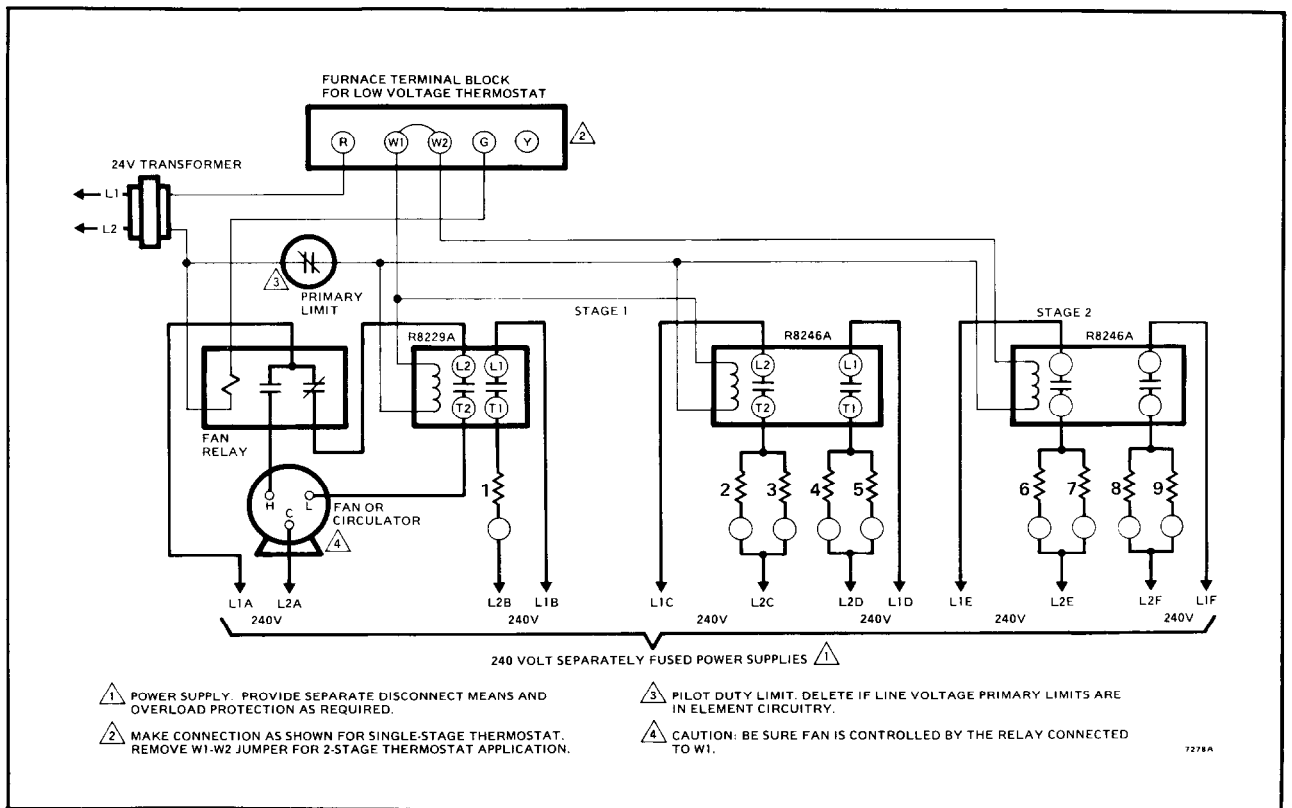

FIG. 8—240 VOLT, TWO-SPEED ISOLATED FAN WITH PILOT DUTY LIMIT.
4. When all elements and fan are on, break the power supply to the relay and contactor by lowering the thermostat set point (or removing jumper Rh-W1) so that switch breaks. Check to make sure that all heating stages turn off. The fan should turn off when the elements go off unless the fan is wired for delayed off (see Fig. 8).